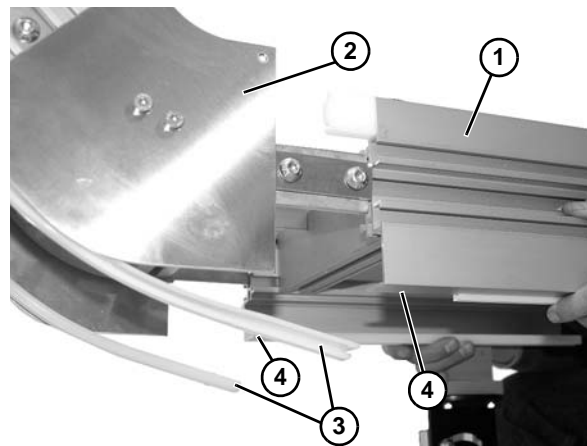

**Figure 7**
2. Tighten two socket head screws (**Figure 7, item 1**). Repeat on other side.